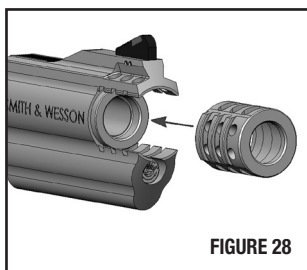

FIGURE 28
1. Insert the compensator into the front of the barrel shroud (FIGURE 28).